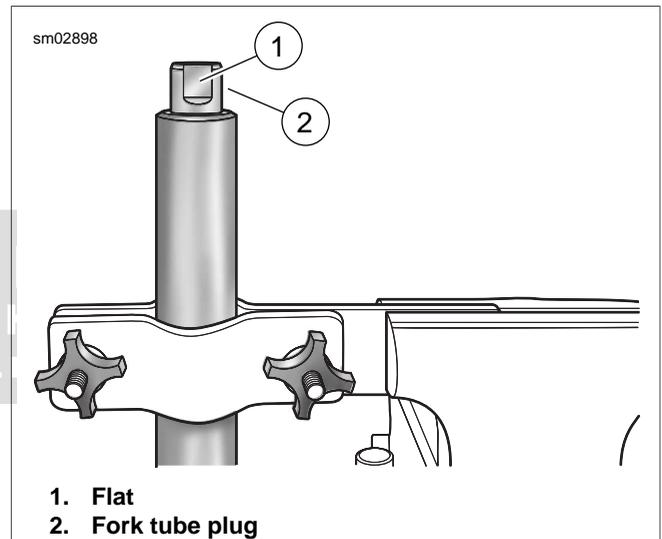

Figure 2-58. Install Fork Tube Into Fork Holder
- b. With the fork cap bolt topside, clamp fork tube between rubber pads on inboard side of tool. Tighten knobs until fork tube is securely held. See Figure 2-58.